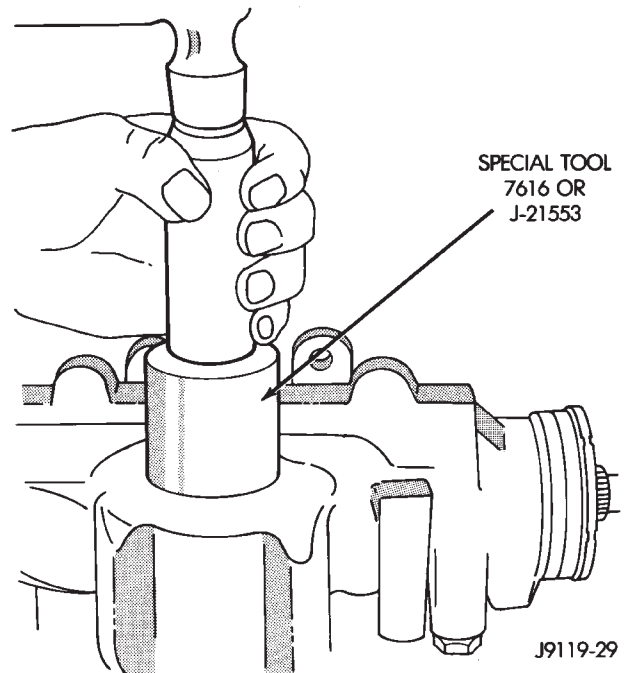

Fig. 38 Pitman Shaft Seal Installation
(2) Install single lip seal with Installer or a suitable size socket (Fig. 38).
(3) Coat the double lip seal and washer with grease.
(4) Install the backup washer.
(5) Install the double lip seal.
(6) Install the backup washer.